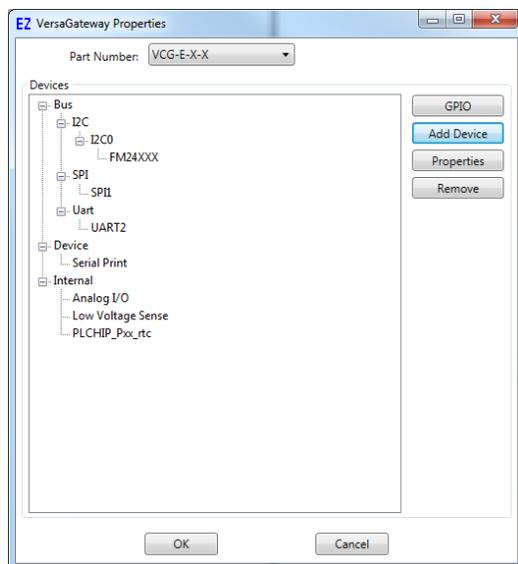

Figure 2-29 - VersaGateway Properties
2. Click the **PROPERTIES** button to the right side of the window. The **VersaGateway's Properties** Window will open. Make sure the proper model is selected in the drop-down menu. If the EEPROM feature was already installed, it would be displayed in the Devices Pane under the *Internal* heading (as PLCHIP_Pxx_eeprom). Refer to Figure 2-29.